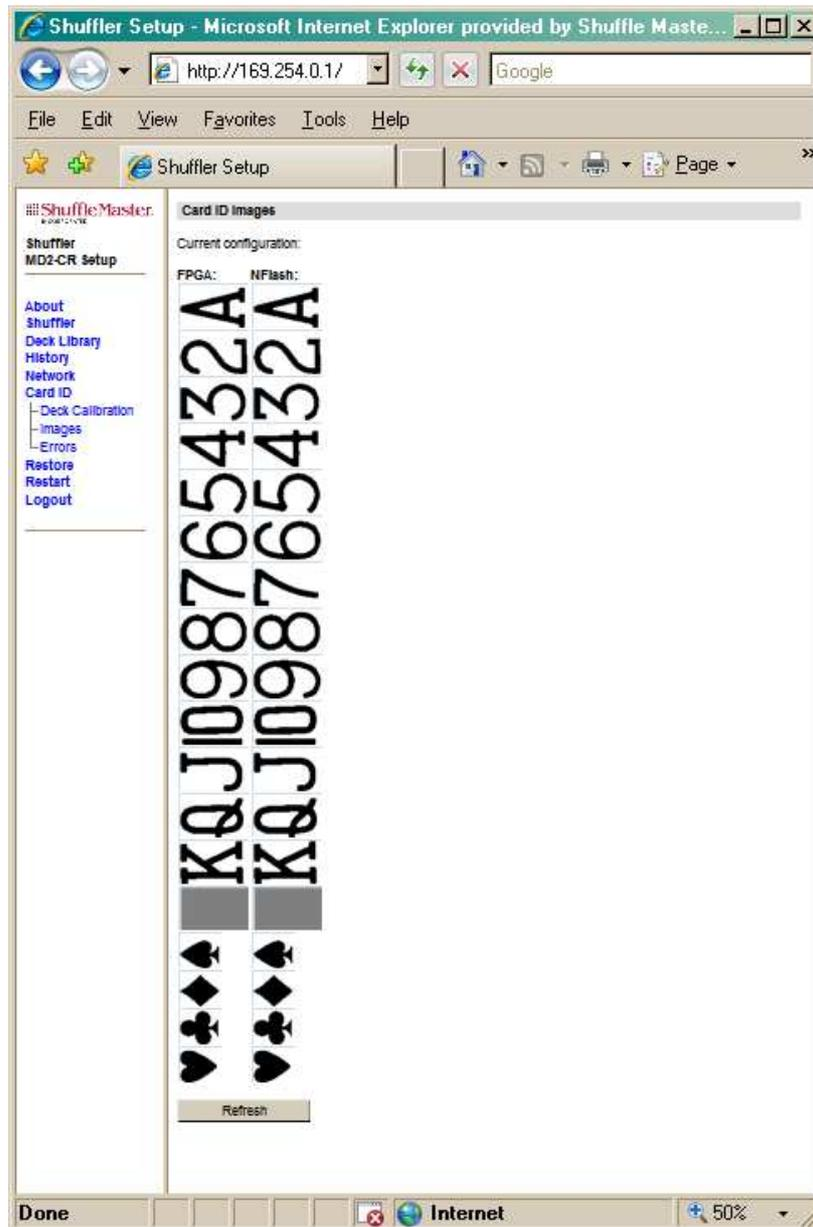

Figure 5-12. Card ID Images Web Page
Selecting the Images submenu item displays the web page shown in Figure 5-12. This is a comparison of the FPGA image compared to the flash image for the current deck. If no tuning has been done for the deck, they should match exactly. However, if tuning has been done, the FPGA image may differ from the Nflash image.
5. Feed the card again. View the scanned images in the Images web page, Figure 5-12. Make further adjustments, if needed. This is a repetitive process and the parameters may have to be redefined several times.